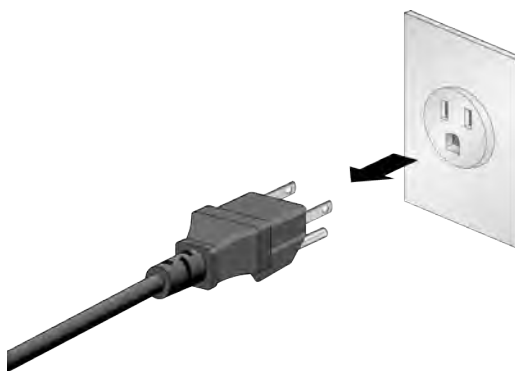

Figure 59. Powering Off the Switch
1. Power off the switch by disconnecting its AC power cords from the AC power sources. Refer to Figure 59.